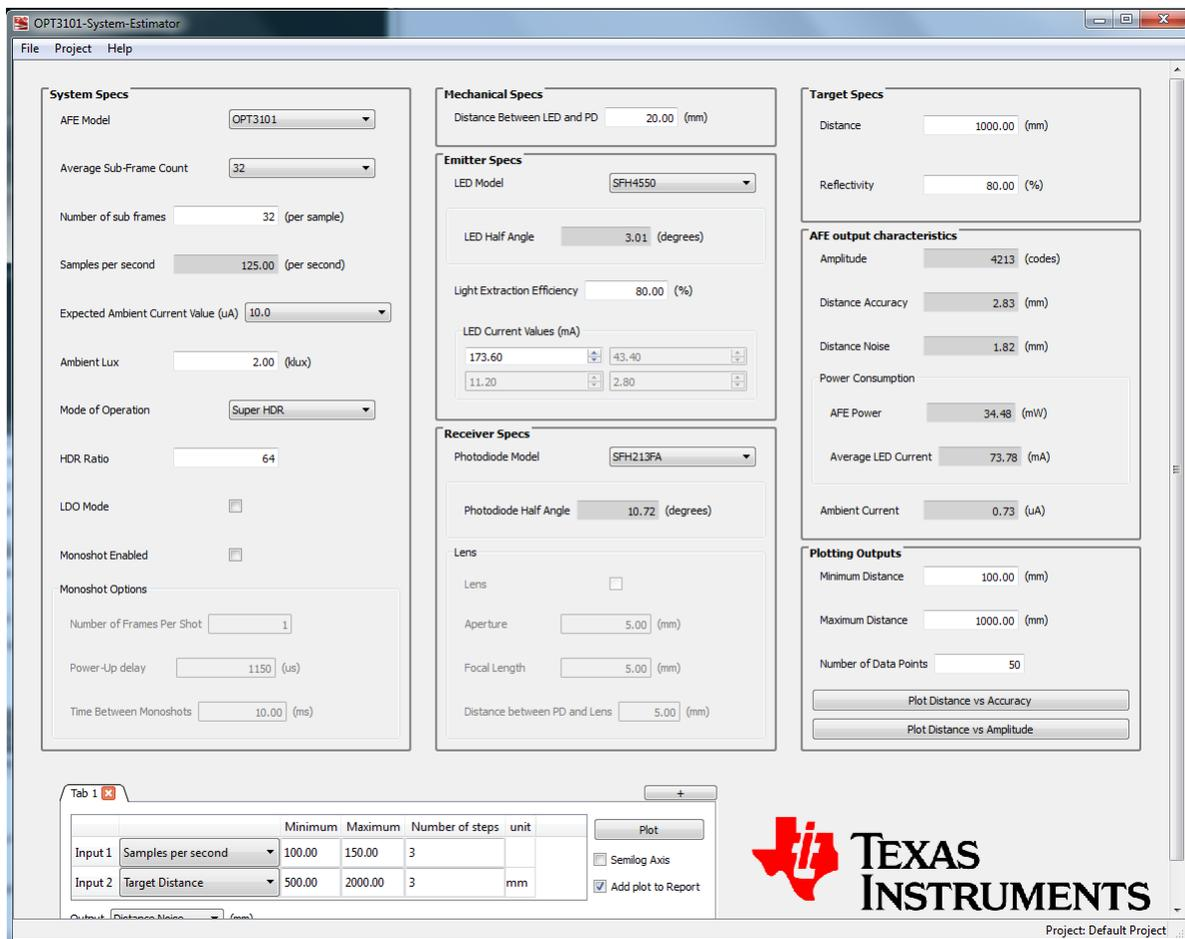

Figure 4. OPT3101 System Estimator New Window
2. The application should look like Figure 4: